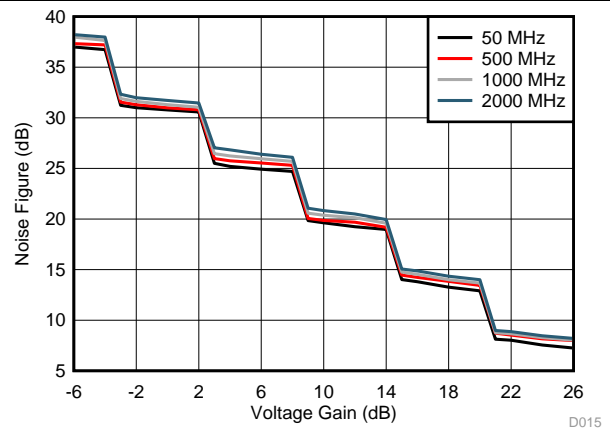

Figure 26. Noise Figure vs Gain Settings
The LMH6401 is best suited to optimize system linearity and noise performance over the entire gain range in the RF and IF bands. Operating on a nominal 5-V supply or ± 2.5 -V split supplies, the device consists of an attenuator stage followed by a fixed-gain amplifier to provide voltage gain control from -6 dB to 26 dB in 1-dB steps (as shown in the Functional Block Diagram section) with an overall 32-dB gain range. The variable gain control for the device is offered through the digital serial peripheral interface (SPI) register. The device has a unique attenuator ladder architecture providing dynamic range improvements where the overall noise figure (NF) remains relatively constant for the first 5-dB attenuator steps, with NF degrading proportional to the attenuator steps on the sixth step. This behavior repeats over the entire gain range; see Figure 26.